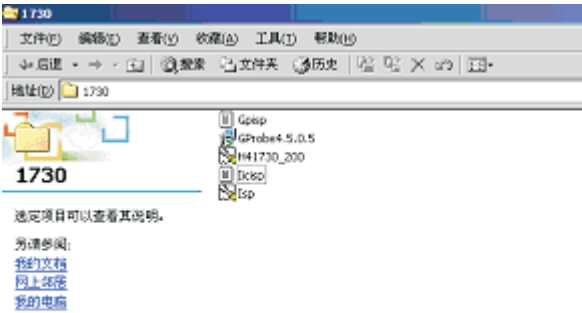

Fig.3
- step 3.Unzip ISP.ZIP into your folder as shpwn in Fig.3